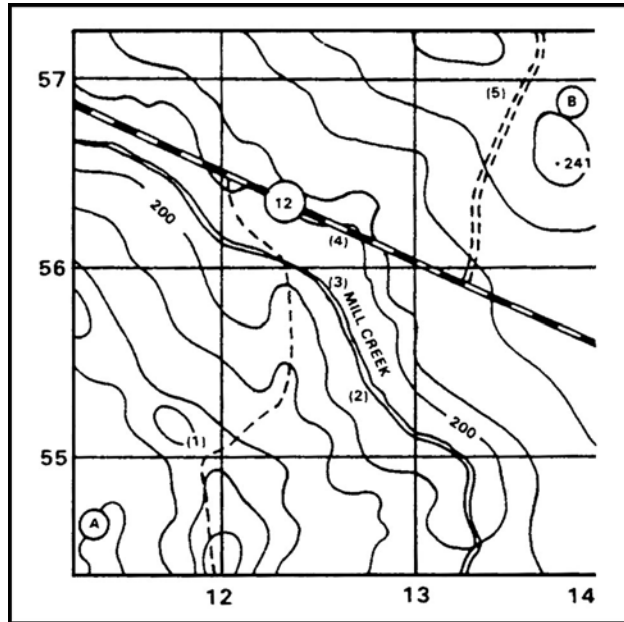

Figure 4. Checkpoints.
- i. Referring to Figure 4, check your distances:
- (1) 500 meters to the saddle (1).
- (2) 800 meters to the stream (2).
- (3) 500 meters to the bend in the stream (3).
- (4) 300 meters to the road (4).
- (5) 1,000 meters to the far saddle (5).